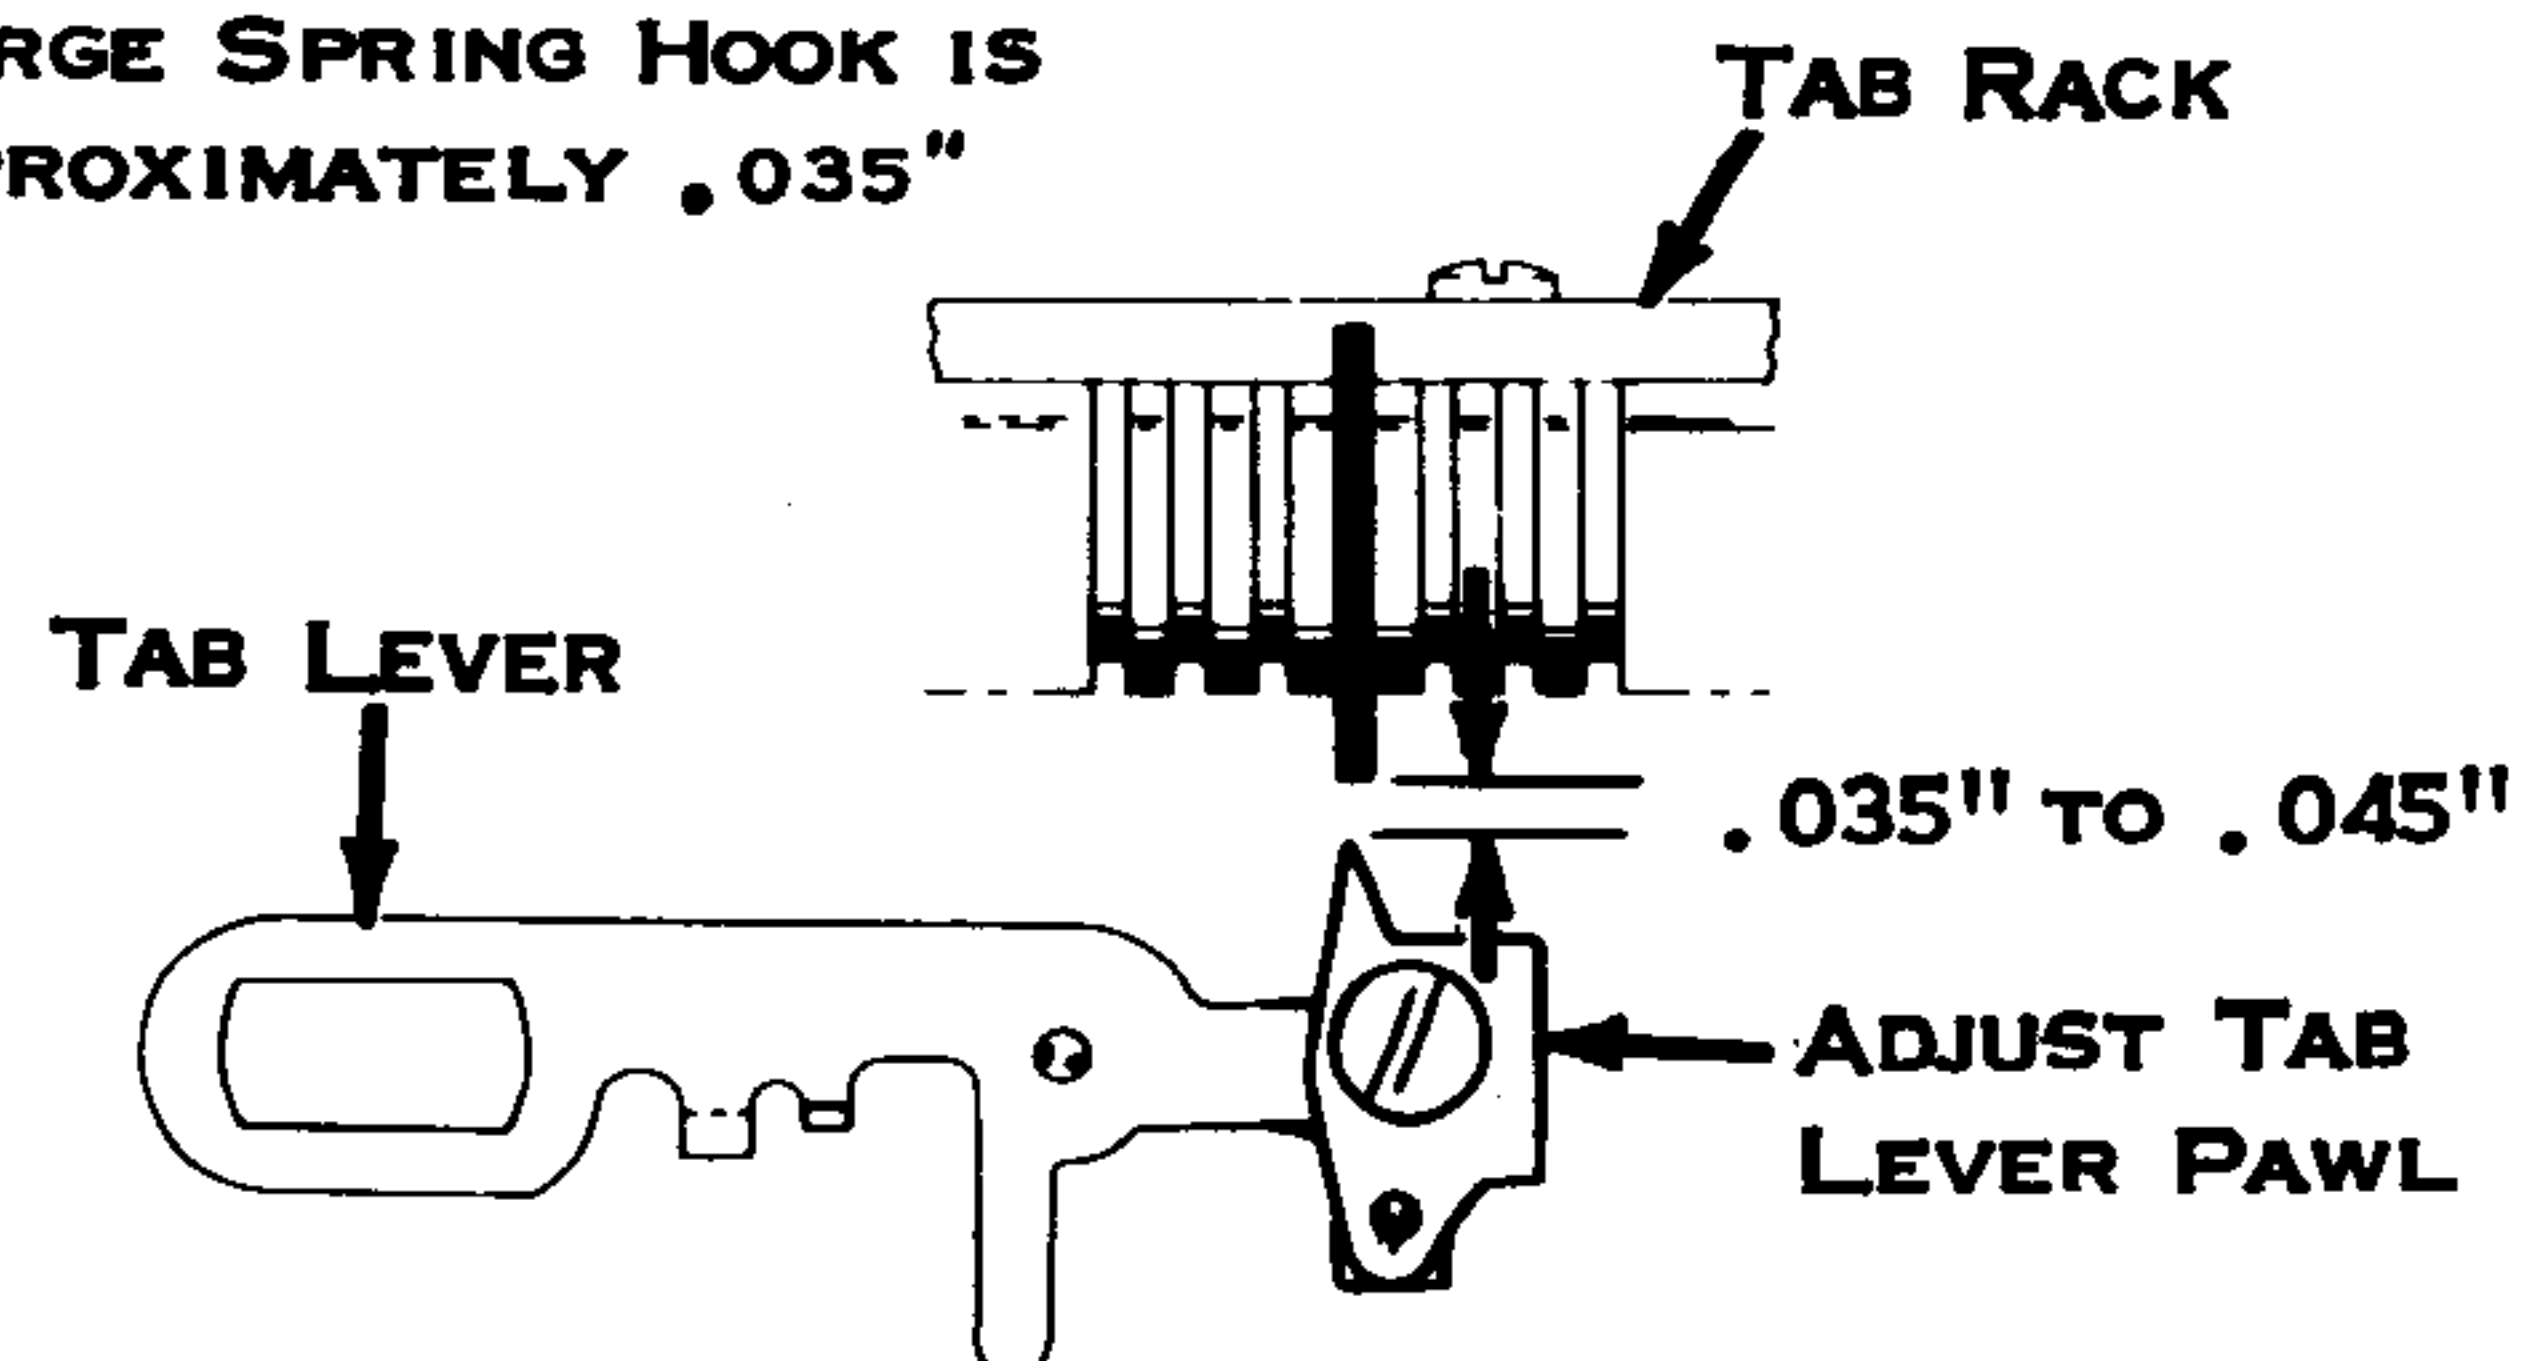

Figure 165. Tab Lever Pawl
2. Tab Lever Pawl (Fig. 165) - The tab lever pawl should be adjusted forward or back on the tab lever so that the tip of the pawl clears the set tab stop by .035" to .045" with the tab lever at rest.